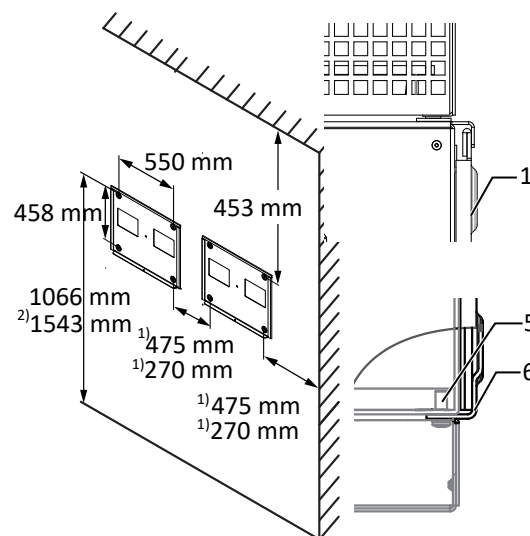

Fig. 12: Wall mounting
- Minimum clearances to be observed during installation: [See figure 12 ► Page 17]
2. Fit the device onto the upper mount by means of the mounting bracket. Fit the device onto the lower mounting bracket in full so that the device sits flush with its rear side on the mount ([See figure 12 [► Page 17]]).